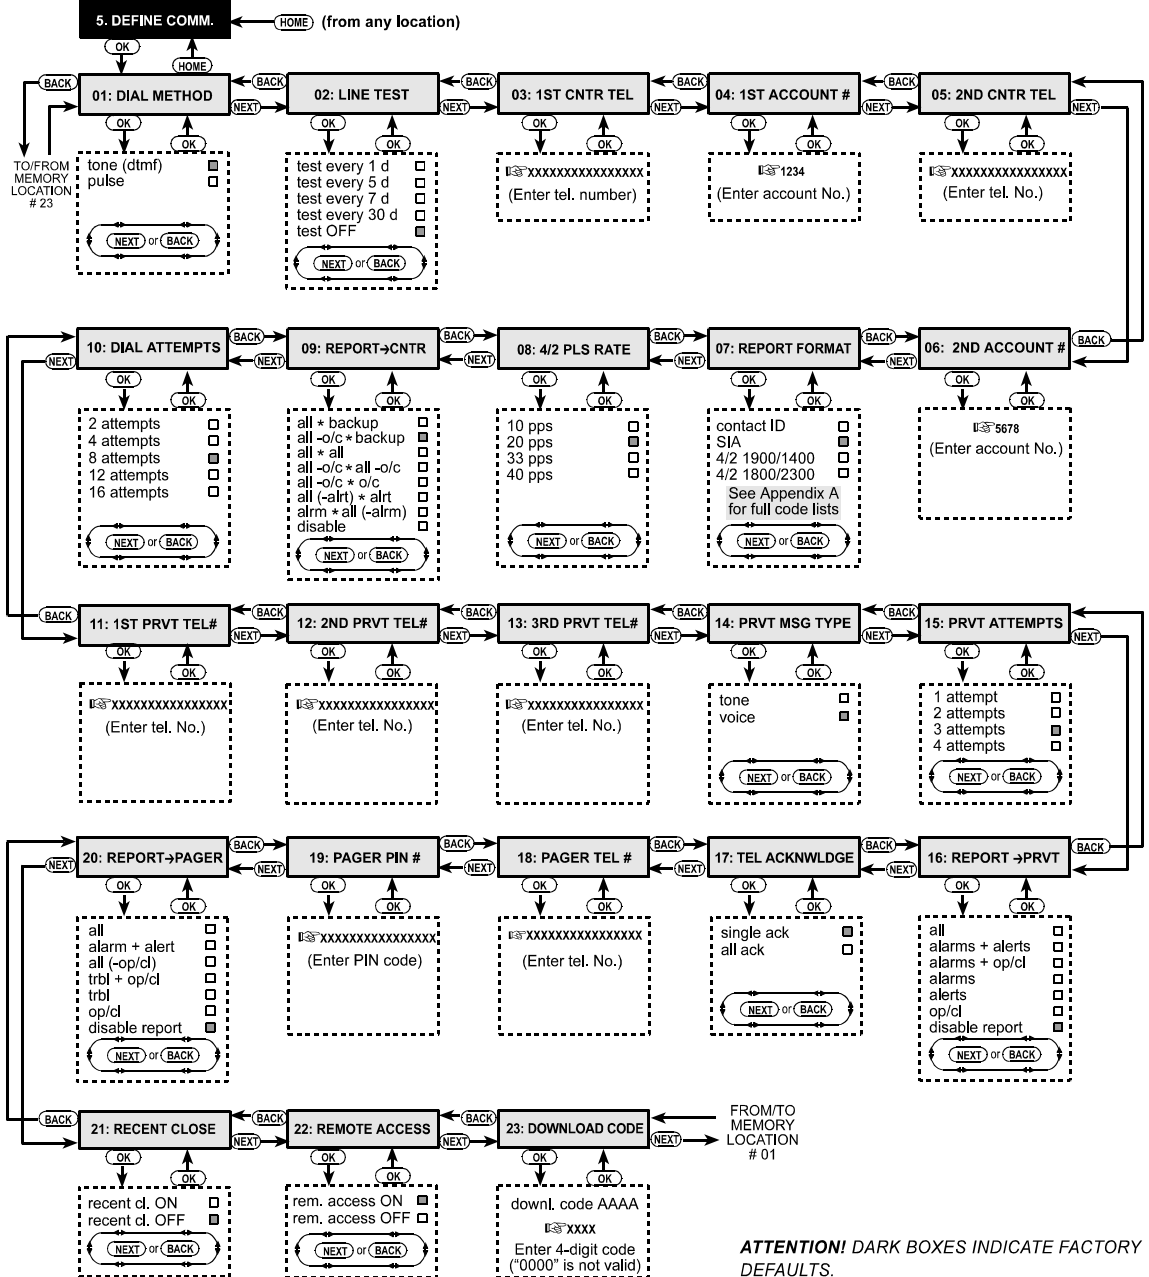

Figure 5. DEFINE COMM Flow Chart
- Click <NEXT> or <BACK> until you reach the memory location you wish to access (see rectangles 01 to 23 in Figure 5).